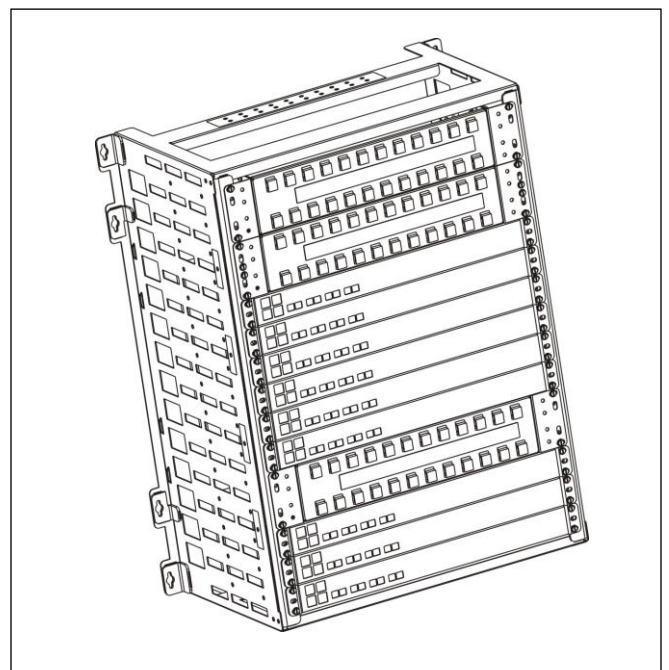
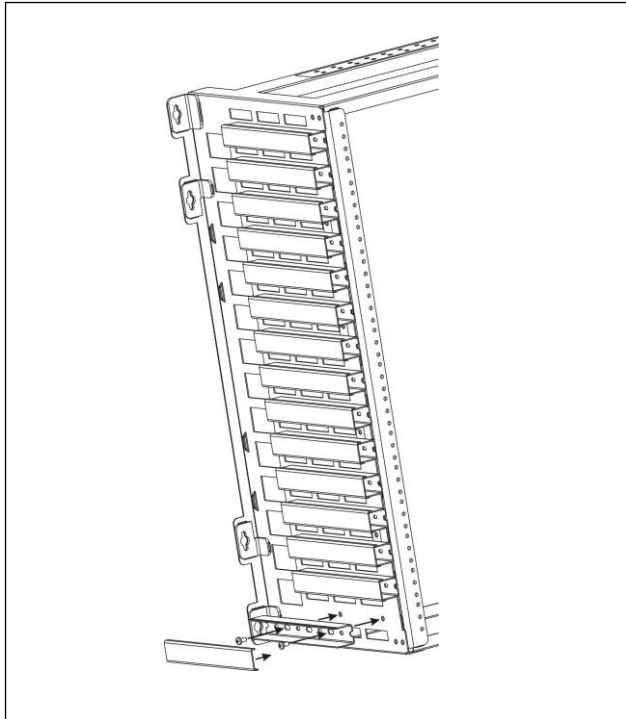

Figure 2. WR-15U w/ equipment installed (example)
Figure 8. Cable guide installation
- ① Install rack equipment with 19" hole spacing by carefully sliding the chassis through the front of the WR-15U and aligning chassis mounting ears with the threaded holes in the rails of the WR-15U frame. Insert and tighten #12-24 machine screws (customer provided) on each side of the chassis. An example of a fully populated wall rack is shown in Figure 2.
- ② Attach ground lugs associated with each equipment chassis to the threaded ground holes on the WR-15U crossbar as needed.
- ① To install a cable guide to the side of the mounting, first remove the sliding cover from the cable guide. Insert two of the #10-32 x 3/8" screws (included in CG-5 package) through the cable guide and into the threaded holes on the side of the WR-15U frame (Figure 8).